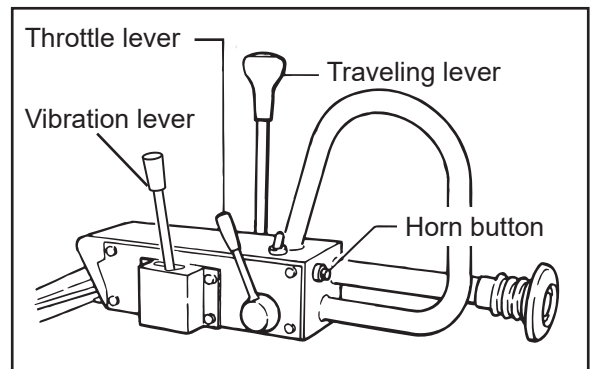

Fig. 7
- Check each lever and wire (travel, vibration, throttle) for proper function.(Fig.7)
- Press horn button to check for proper function. (Fig.7)
- With throttle lever fully opened, increase the engine rotation. (Fig.7)